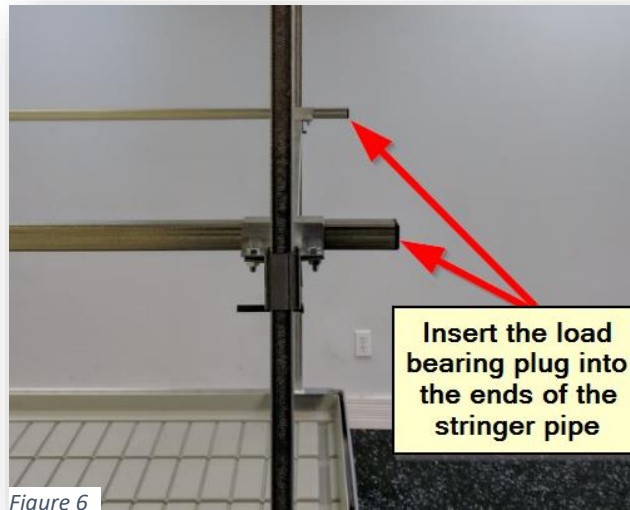

Figure 6
5. Now you'll want to insert the load bearing plugs (**A4**) into the ends of the stringer pipe as is shows on *Figure 6*.